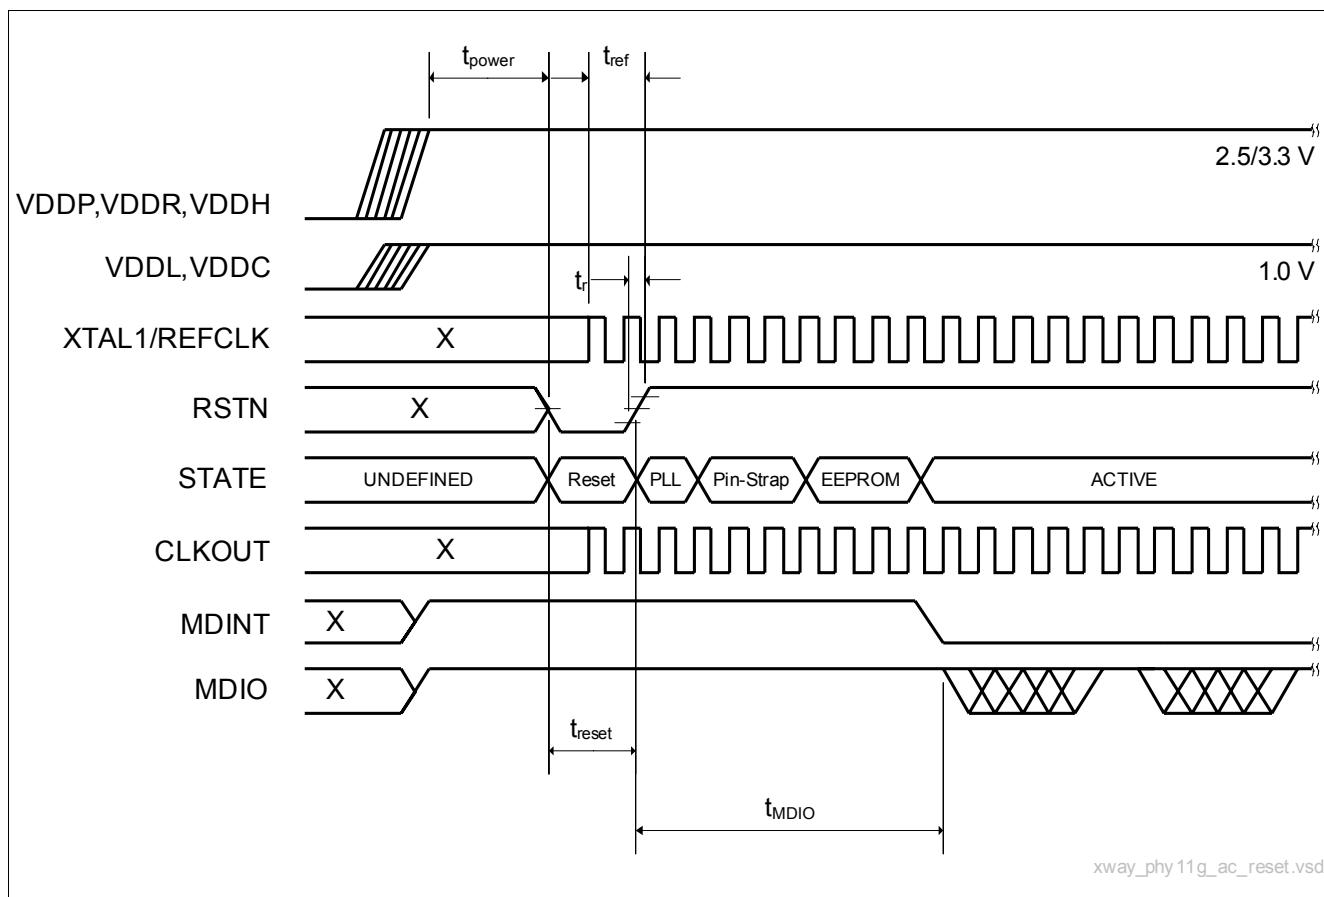

Figure 43 Timing Diagram for the XWAY™ PHY11G Reset Sequence
The XWAY™ PHY11G supports an asynchronous hardware reset, RST N. The timing requirements of the XWAY™ PHY11G related to the RSTN pin are listed in Table 48. The timing requirements refer to the signal sequence waveforms shown in Figure 43¹⁾.
After the power supply settling time, all primary input signals to the XWAY™ PHY11G must be defined. In particular, the device reset RSTN must be held for a time t_{reset} . As shown in Figure 43, the reference clock (either generated internally using an attached crystal, or applied externally from an external crystal oscillator) should be available at the latest before the reset is released. This setup time is denoted as t_{ref} . The maximum slope of the rising edge of the reset signal is constrained by the rise time t_r . In case the integrated DC/DC switching regulator is used to self-supply the low-voltage domains, the reference clock must not be interrupted at all, unless when powering down the system.
1) Figure 43 shows an active-low MDINT signal. However, MDINT can be configured to either active-low or active-high, depending on the external configuration. Refer to Chapter 3.4.3.3 - MDIO Interrupt for more information.